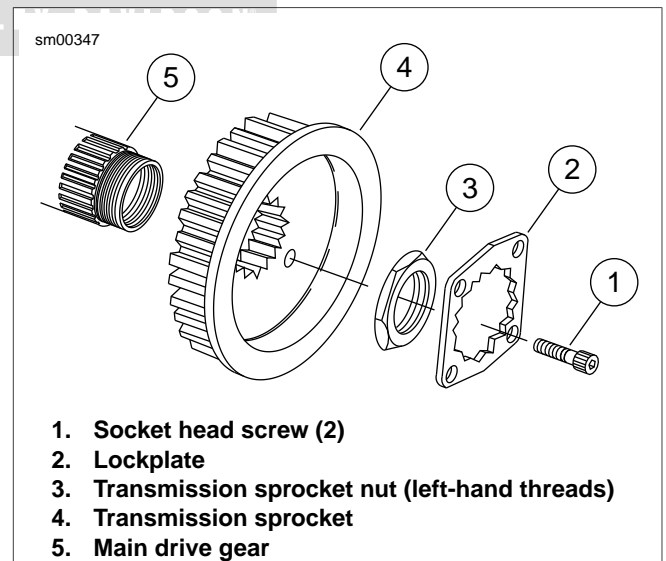

Figure 5-101. Transmission Sprocket
7. See Figure 5-101. Place transmission in first gear. Remove two socket head screws (1) and lockplate (2).
9. See Figure 5-101. Remove transmission sprocket nut (3) from main drive gear (5) using MAINSHAFT LOCKNUT WRENCH (Part No. HD-94660-37B) or MAINSHAFT LOCKNUT WRENCH (Part No. HD-46288) and a breaker bar.
10. Remove secondary drive belt from transmission sprocket. Remove transmission sprocket (4) from mainshaft (5).
- See Figure 5-101. Install transmission sprocket (4) with secondary drive belt onto main drive gear (5).
- Apply a few drops of LOCTITE 271 (red) to the **left-hand threads** of transmission sprocket nut (3) and lightly coat the washer-faced side with clean H-D 20W50 engine oil. Wipe off any excess oil.
- See Figure 5-101. Install lockplate over nut so that two of lockplate's four drilled holes (diagonally opposite) align with sprocket's two tapped holes.